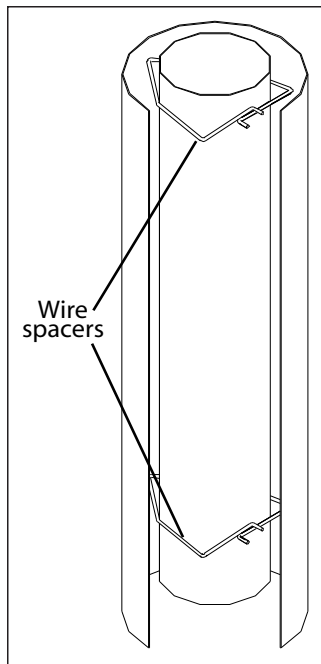

Figure 16: Wire Spacers.
8. Slide the Ø65/8" (16.25 cm) flex intake liner over the flex vent. Install four (4) wire spacers around the flex pipe. Ensure the wire spacers are positioned at either end of the pipes, and at each end of any elbows in the liners (refer to Figure 16 and 17).